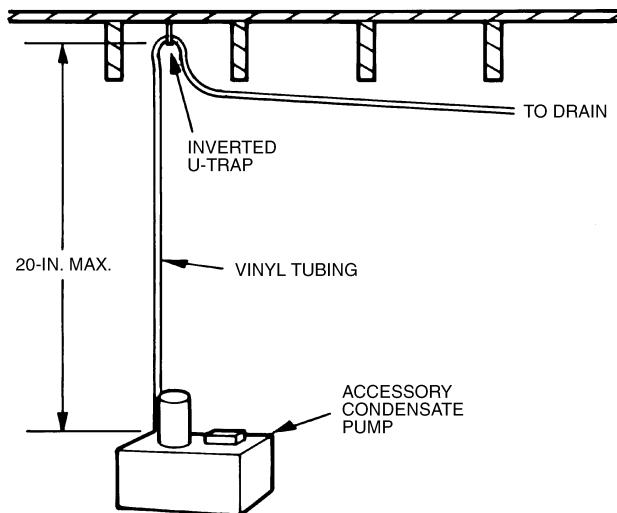

Fig. 1 — Piping Connections
- Connect 3/8-in. ID vinyl tubing to the fluted discharge fitting and raise it to the highest possible point above the pump (up to 20 in.). See Fig. 1.
- Form an inverted U-trap (see Fig. 1), and slope tubing downward toward drain. This inverted U-trap helps prevent backward siphoning which causes the pump to cycle excessively. If flowback is a problem, the installation of a field-supplied check valve is recommended.